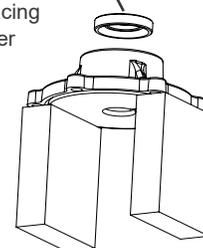

Figure 11
1. Carefully place seal in the cover centered with the crimped side down (see Figure 11). Press seal to bottom of cavity using a socket or dowel a little smaller than 1-1/8" (6 roller) or 1-1/4" (8 roller) to press evenly on seal diameter.